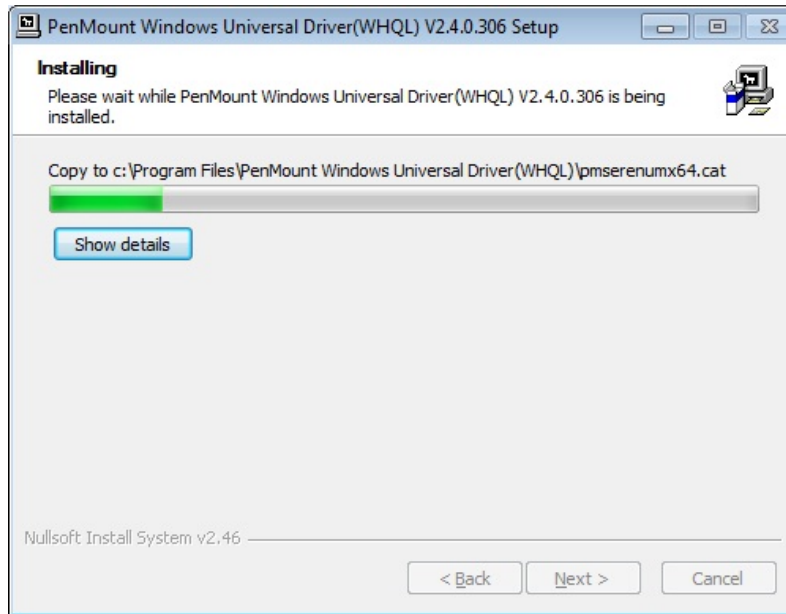

Figure 6-31: Setup Status
Step 9: The installation begins. See **Figure 6-31**.